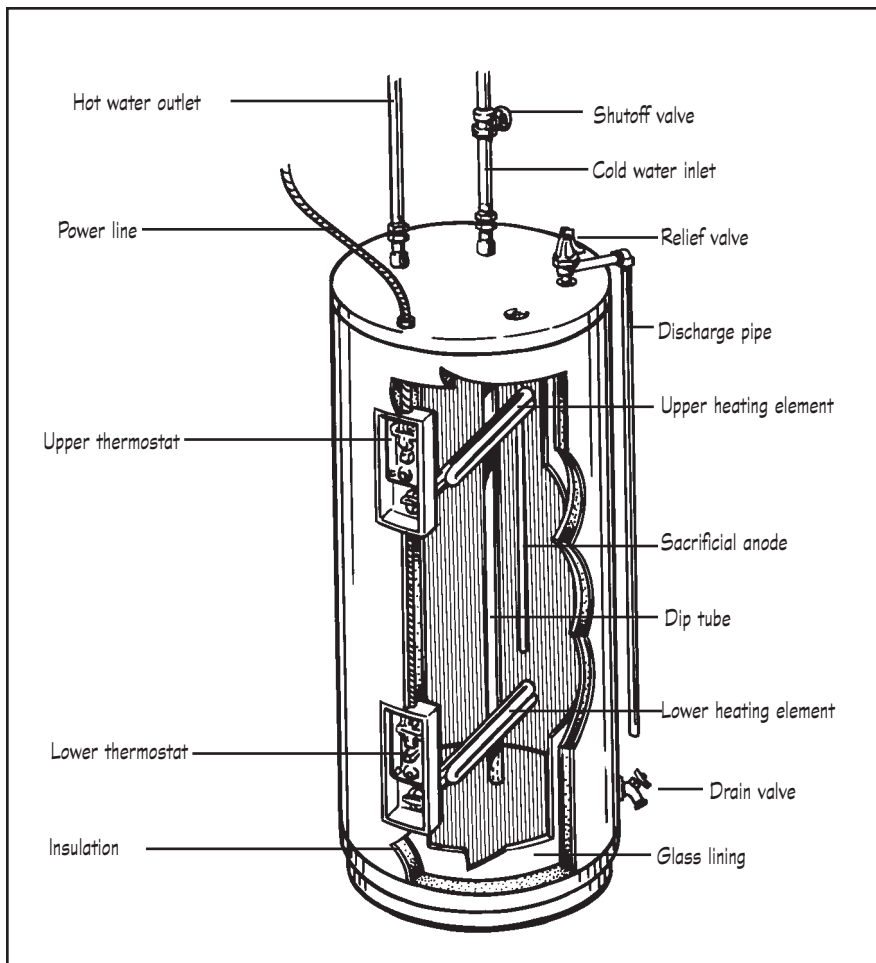

Figure 3
**Electric water heaters.** Most electric models use resistance coils inside the tank (Figure 3). Electric water heaters typically have slower recovery rates that many gas models. They make up for that with larger tanks.